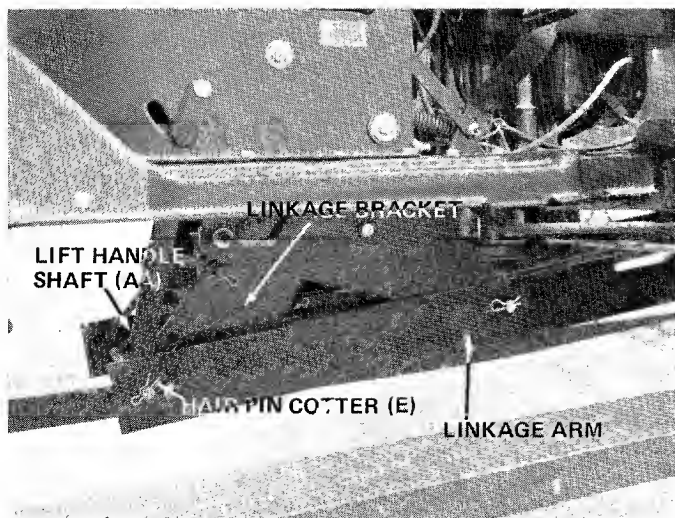

FIGURE 21
23. Place the holes in the end of the linkage arms in line with slot in the linkage brackets and secure with lift handle shaft (AA) and hair pin cotters (E). See figure 21. Lower the lift handle on the lawn tractor to its lowest position.
Linkage arms must be mounted on the outside of linkage brackets. Refer to figure 21.